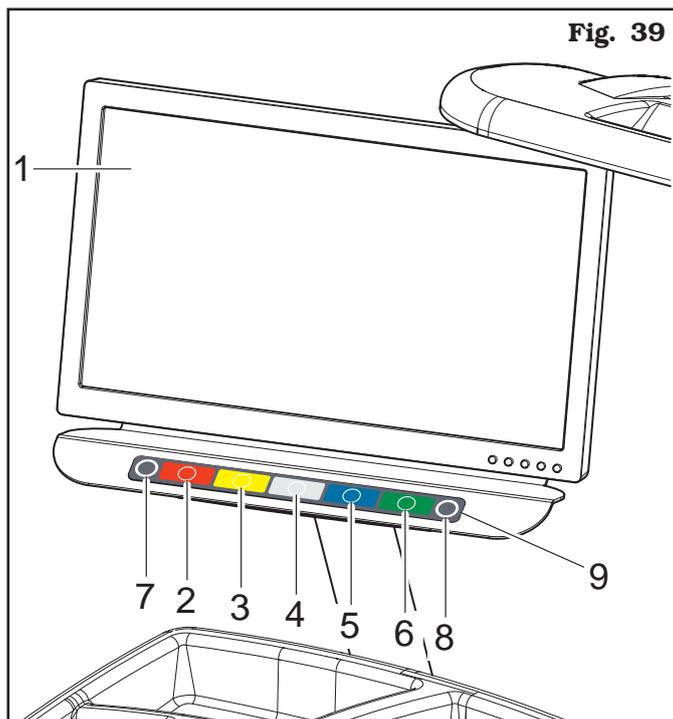

Fig. 39
At the bottom of the main screen and each screen described below, there will be coloured rectangles (**Fig. 40 ref. B**) located above the icons of identification function (**Fig. 40 ref. C**). These functions are activated by pressing the appropriate coloured button on the keypad (**Fig. 39 ref. 9**). Press the button (**Fig. 40 ref. 3**) to display a second page where you can access the "Technical assistance" menu and the "Run-out" menu (see **Fig. 41**).